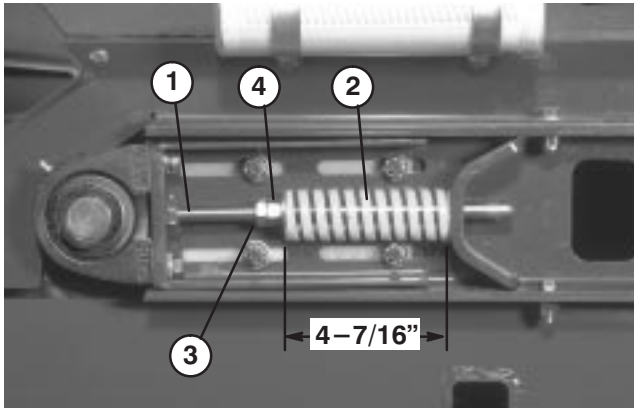

Figure 9
1. Loosen jam nuts and adjust tension rod nuts to attain desired tension (Fig. 9).